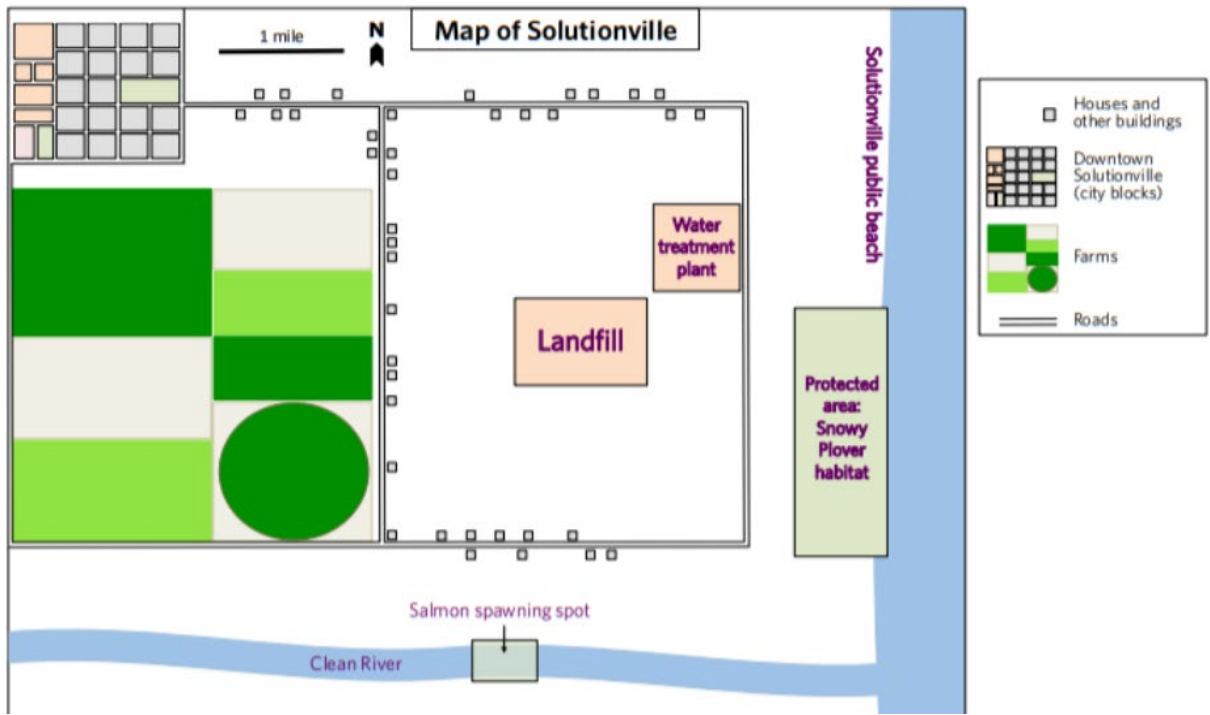
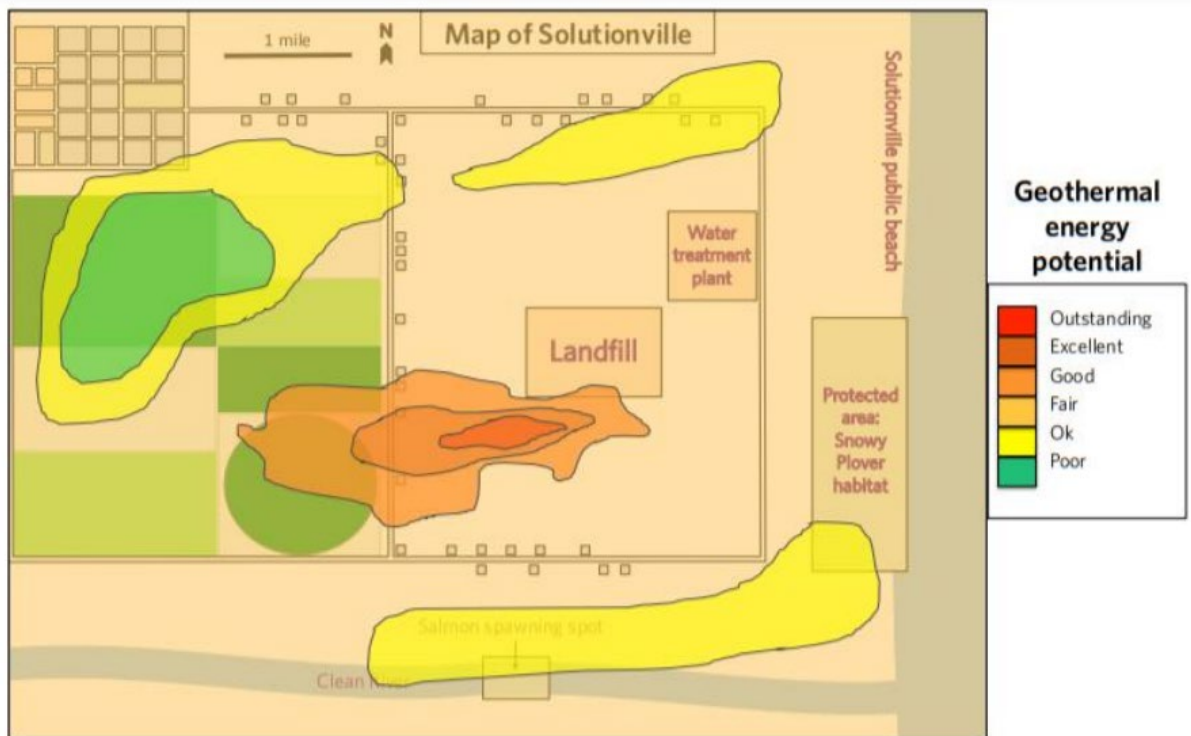

Fig. 1. Map of Solutionville
Fig. 4. Potential of geothermal energy
- 1) you are supposed to depict (on the scale of the layout) renewable energy facilities on maps of the potential use of different types of renewable energy (Fig. 1 – Fig. 4). It is necessary to take into account the peculiarities of climatic and environmental conditions prevailing in the city (Annex 1).